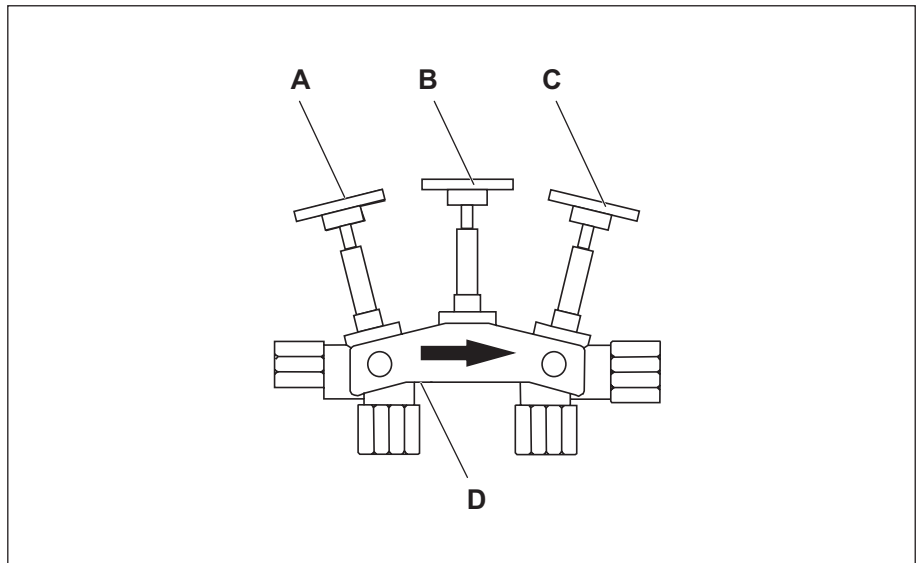

Fig. 4: Valve positions of the bypass mixing valve
- ▶ Install the bypass mixing valve with the arrowhead in the direction of flow (Fig. 4) of the on-site piping system.